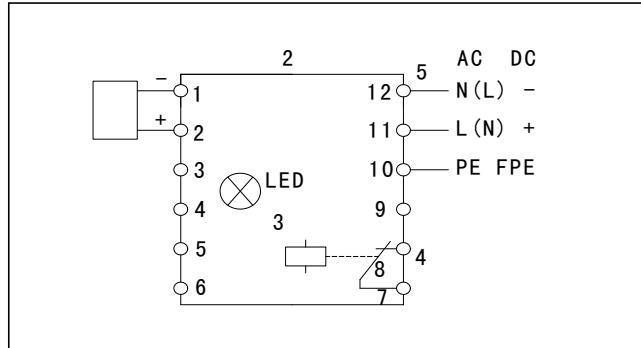

Fig. 9-4
- fig. 9-4 Electrical connection of one transition terminal,